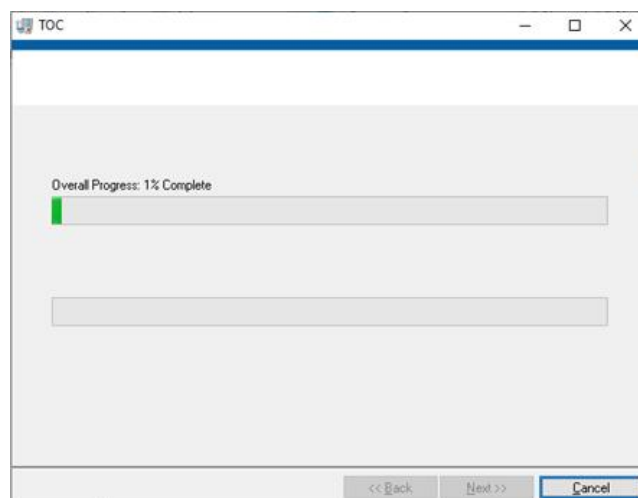

Fig.3.25
5)Wait to complete the installation (Fig.3.25).